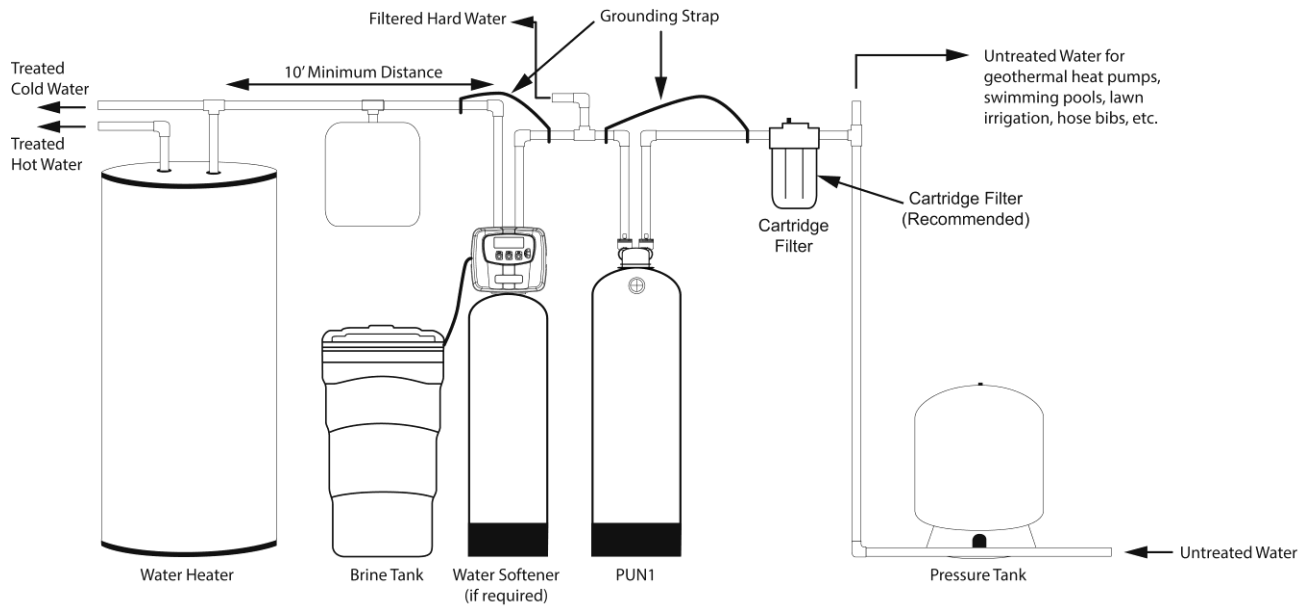

FIGURE 1: Typical Installation
5. Appliances requiring extended periods of continuous or high flow water use (i.e. geothermal heat pumps, swimming pools, lawn irrigation, outside hose bibs, etc.) should bypass the water filter. (see installation diagram Fig. 1).